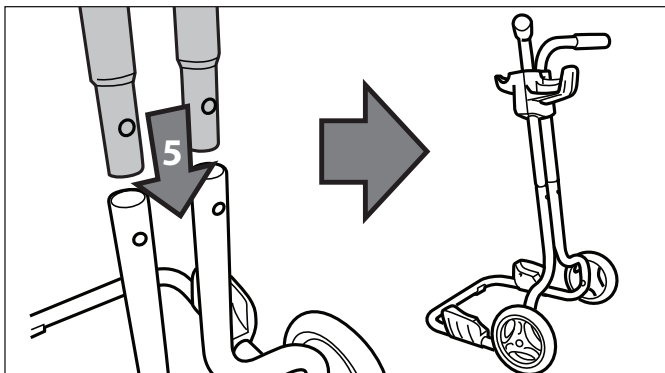

Figure 5. Install the Handles
- Insert the upper tubes (handles) into the bottom tubes on the cart as shown in Figure 5. Make sure the upper tubes (handles) are in the proper orientation and align the screw holes.